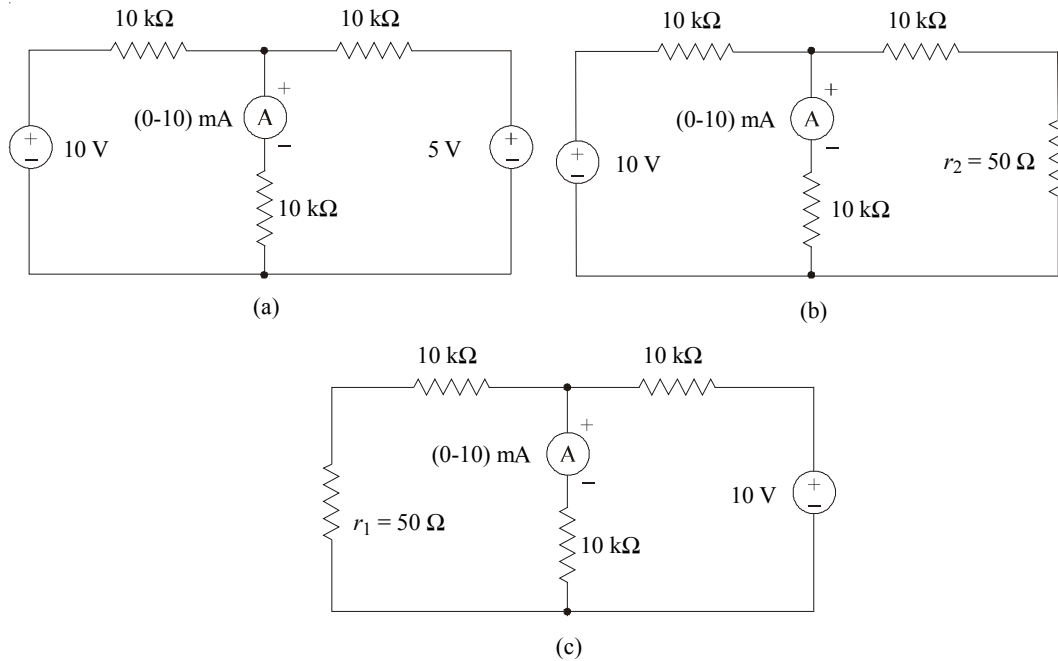

Fig. 1.16
1. Connect the circuit as per the circuit diagram [Fig. 1.16 (a)].
3. Replace the second power supply by its internal resistance [Fig. 1.16 (b)].
5. Connect back the second power supply (5 V) and replace the first power supply by its internal resistance [Fig. 1.16 (c)].